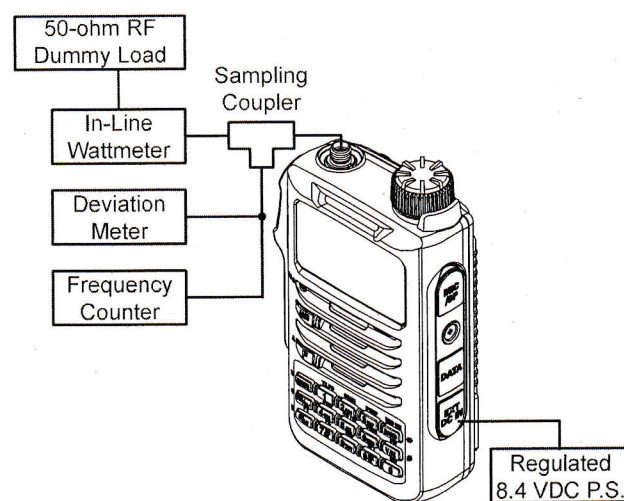

Figure 1: TX Alignment Setup
- Connect the test equipment as shown in Figure 1: TX Alignment Setup.